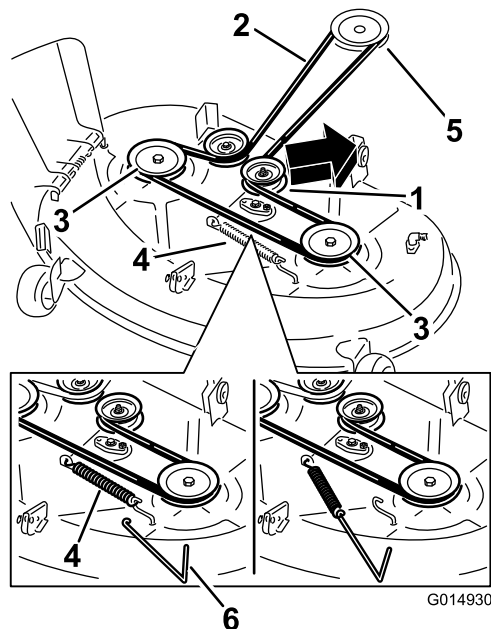

Figure 62
5. Using a spring-removal tool (Toro Part No. 92-5771), remove the idler spring from the deck hook to remove tension on the idler pulley, and roll the belt off the pulleys (Figure 62).
6. Route the new belt around the engine pulley and mower pulleys (Figure 62).
7. Using a spring-removal tool, install the idler spring over the deck hook, and place tension on the idler pulley and mower belt (Figure 62).